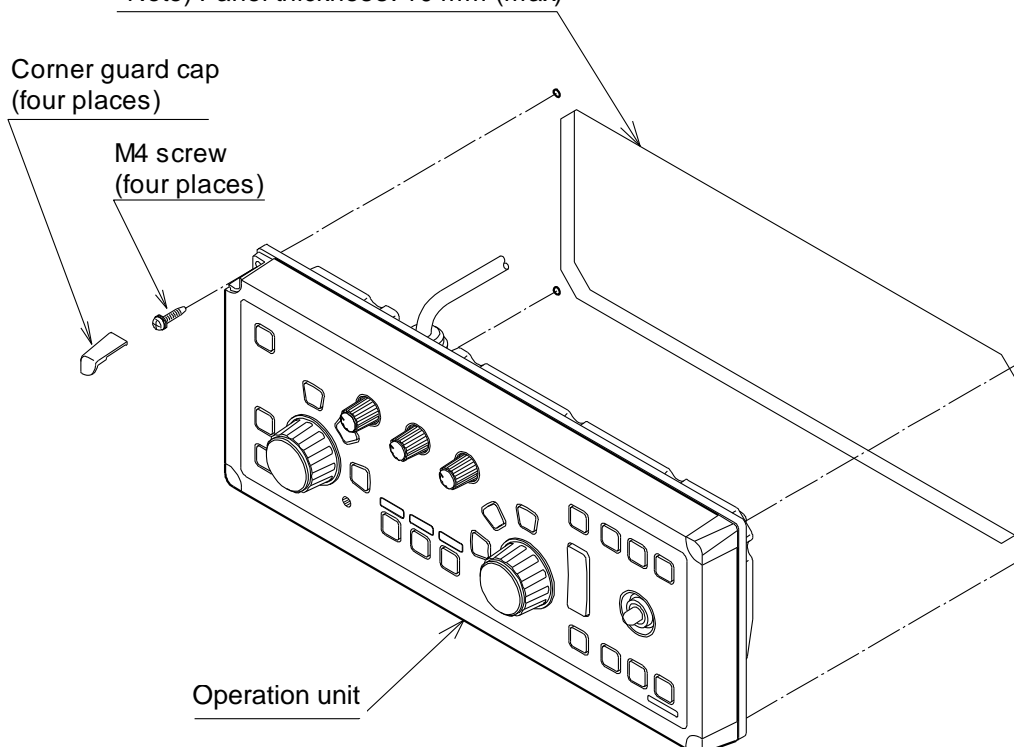

Figure 3.10 Flush mounting the Operation unit
- (1) Remove corner guard caps of Operation unit.
- (2) Insert the Operation unit and its connecting cable into the opening and adjust the Operation unit parallel to the mounting face (Figure 3.10).
- (3) Secure the Operation unit to the panel with 4 mm tapping screw (4 places).
- (4) Reinstall corner guard caps removed in (1) to the original places.